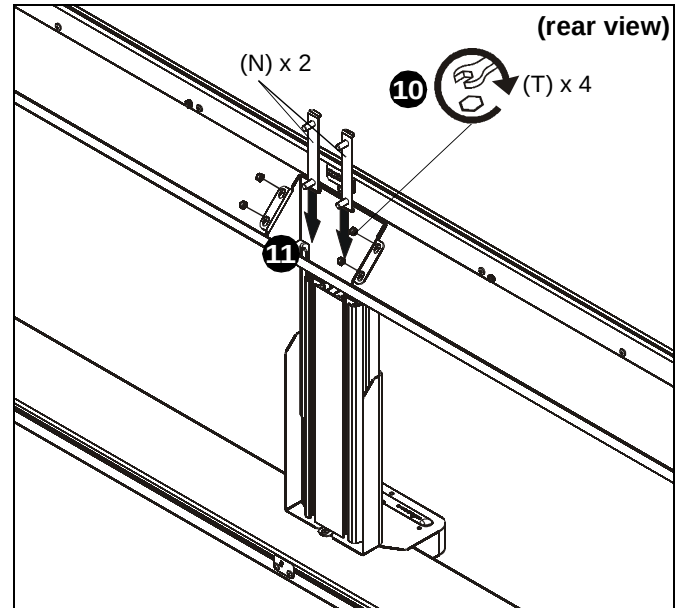

Figure 5
10. Use four #10-24 hex nuts to secure top telescoping shroud (L) to screen tray and cross assembly (D). (See Figure 5)
11. Slide two stud strips (N) into channels on height-adjust beam (G). (See Figure 5)